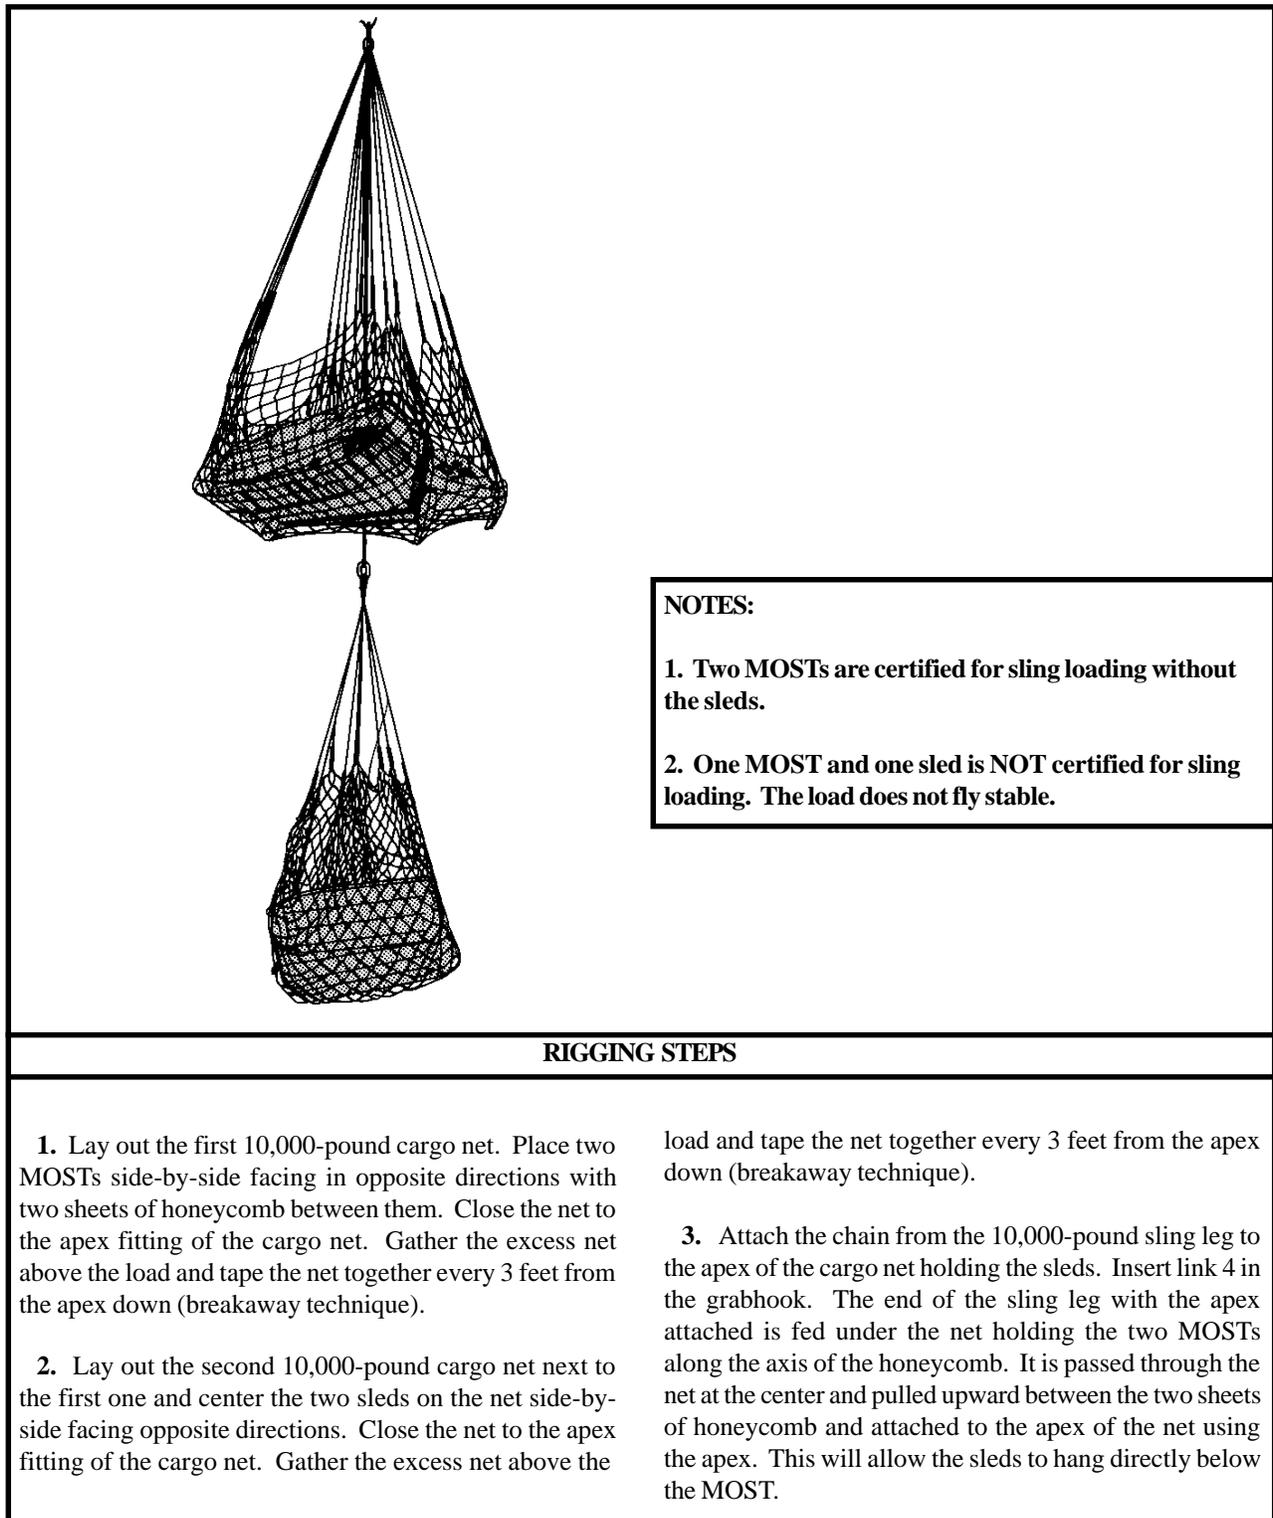

Figure 14-6. Two Mobile Oversnow Transport (MOST) Snowmobiles with or without Two Sleds
(2) **Rigging.** Rig the load according to the steps in Figure 14-6.